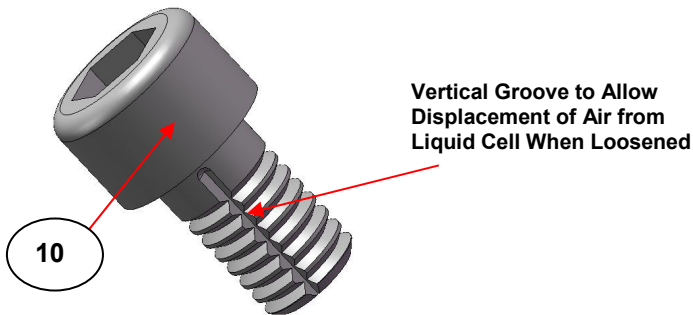

Fig 8. M3 Filling Cap Head Bolt
The M3 filling cap head bolt (10) itself is special in that it has a fine groove milled vertically along the threaded shaft. (See Fig 8.)